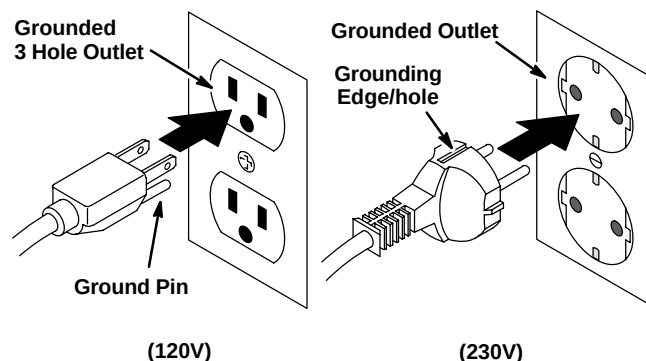

FIG. 25
6. Plug the charger's power cord into a grounded wall outlet (Figure 25).